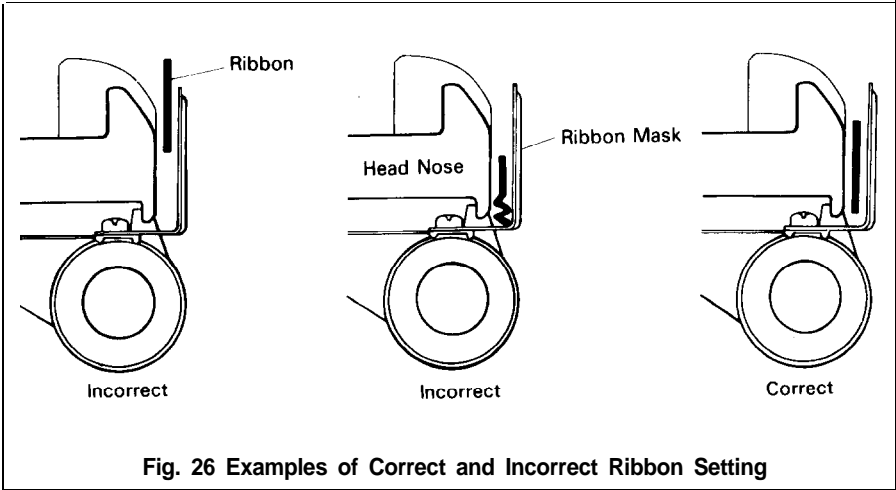

Fig. 26 Examples of Correct and Incorrect Ribbon Setting
- NOTES: 1. Incorrect setting of the ribbon may cause it to come off. (See Fig. 26.)